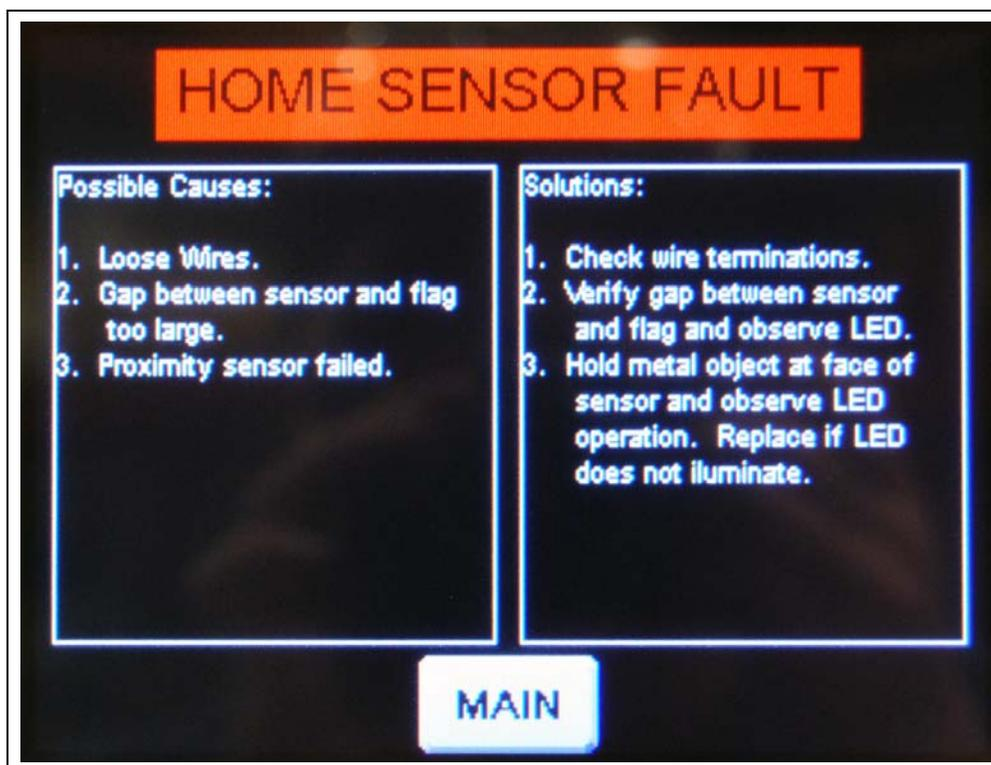

Figure 4H Home Prox Fault Screen
**Home Prox Fault:** Displays the “Home Sensor Fault” screen which offers possible causes and solutions to faults caused by a proximity switch failure. (See Figure 4H on Page 34.)